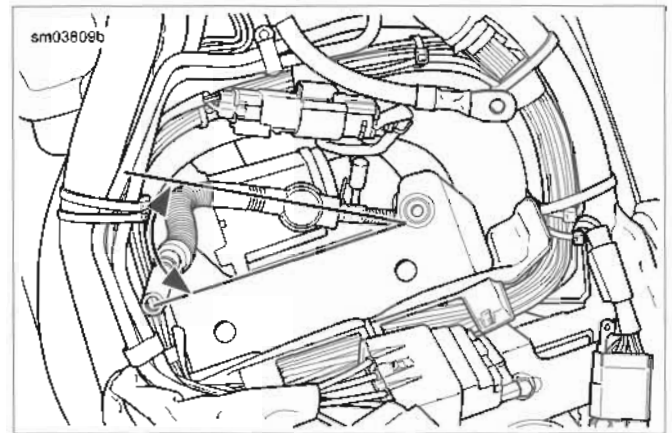

Figure 1-50. Positive Battery Cable Routing
- See Figure 1-50. Position positive battery cable properly at starter. Cable end must face 35 +/- 10 degrees forward from left side of vehicle.